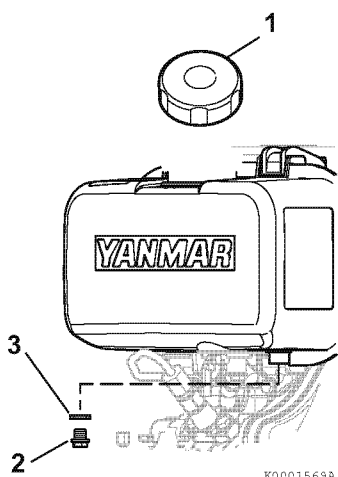

Figure 9
2. Remove the fuel cap (1, **Figure 9**).
3. Remove the fuel tank drain plug (2, **Figure 9**) and gasket (3, **Figure 9**) to drain the fuel.
4. Tighten the fuel tank drain plug (2, **Figure 9**) with new gasket (3, **Figure 9**).
5. Refill fuel tank. Replace the fuel cap (1, **Figure 9**) and hand tighten. Overtightening the fuel cap will damage it.